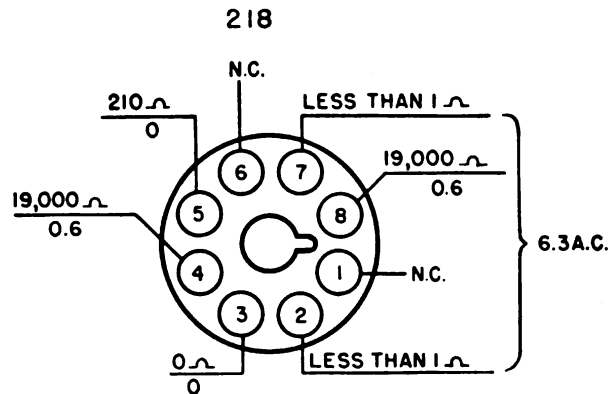

Figure 29. Signal-rectifier circuit schematic and voltage and resistance values.
30. Signal-Rectifier Stage (fig. 29)